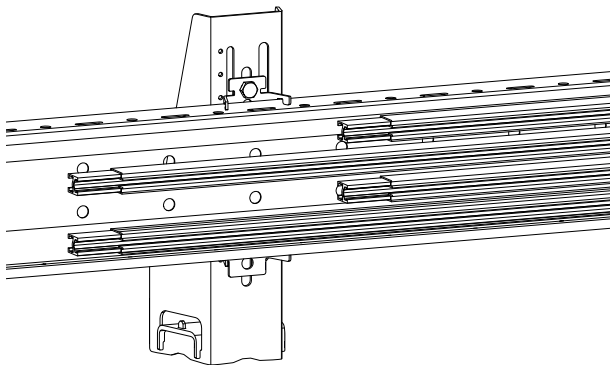
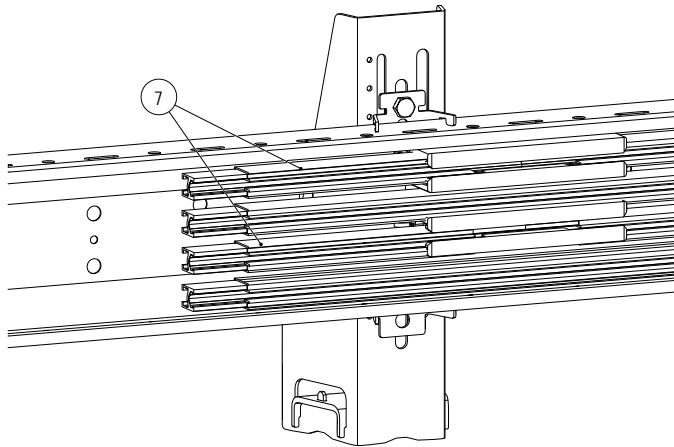

Fig. 39: Conductor rails are not at same height
Fig. 41: Conductor rails are at same height
6. Due to the offset arrangement of the line feeds in the terminal box or the connectors, the additional conductor rails on the track are not at the same level. In order to bring the conductor rails back to the same height, a short piece (250 mm) (7) with a connector is installed on each of the short ends of the conductor rails before the conductor rails can continue to be installed on the track (see Fig. 39 to Fig. 41).
7. Due to the offset arrangement of the line feeds in the and the connectors, the additional conductor rails on the track are not at the same level. In order to bring the conductor rails back to the same height, a short piece (250 mm) (7) with a connector is installed on each of the short ends of the conductor rails before the conductor rails can continue to be installed on the track (see Fig. 39 to Fig. 41).